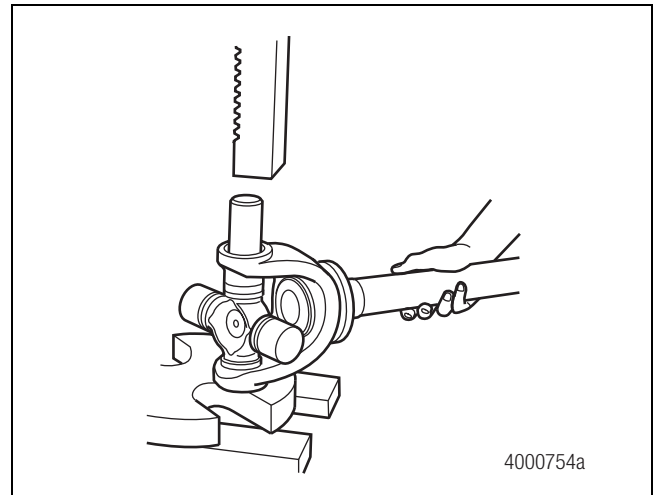

Figure 6.2
2. Press the first round bushing into the yoke slightly past the snap ring groove. Check that the bushing is aligned with the universal joint trunnion. Figure 6.2.